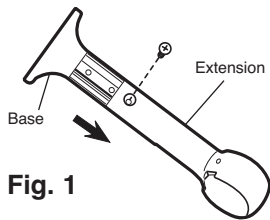

Fig. 1
1. Remove screw and separate bracket base from extension (fig. 1).